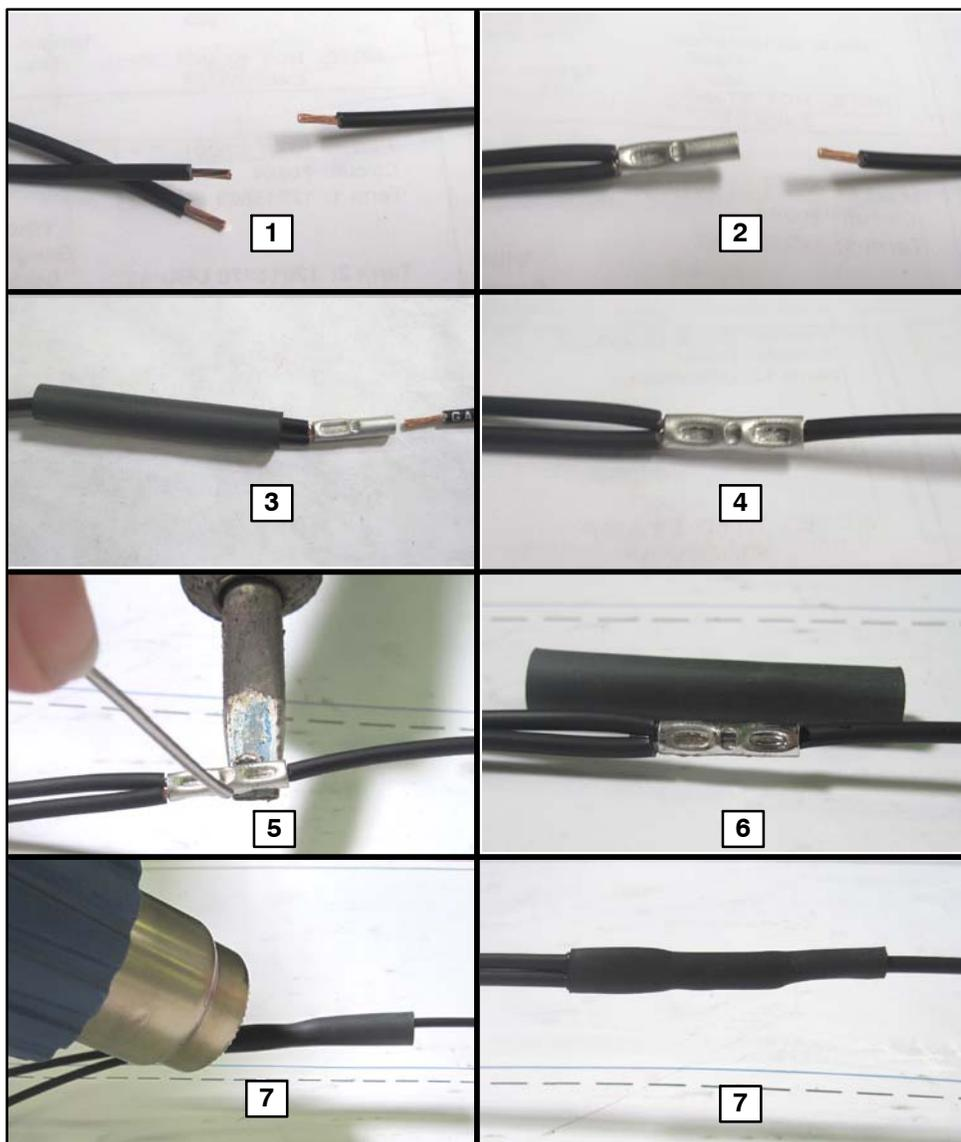

Figure 4.
7. Locate circuits A1, RA1 and LA1C in connector S102 cavities E, D and F. Using wire cutters, cut the wires 0.50 inch from the connector and splice them together using heat shrink, p/n 07-08-4684 (see Figure 4).
8. Locate circuits W1, RW1 and LW1C in connector S102 cavities L, K and M. Using wire cutters, cut the wires 0.50 inch from the connector and splice together using heat shrink, p/n 07-08-4684. (refer to Figure 4).
9. Using a small removal tool, remove circuit LW2A from connector S102 cavity J and splice with circuit LW2A from the Interior Light Relay Kit, p/n 07-08-4682 using heat shrink, p/n 07-08-4685 (refer to Figure 4).
10. Remove circuit RW2 from connector S102 cavity G and splice with circuit RW2 from the Interior Light Relay Kit, p/n 07-08-4682, using heat shrink p/n 07-08-4685 (refer to Figure 4).
11. Remove circuit LA3A from connector S102 cavity C and splice with circuit LA3A from the Interior Light Relay Kit, p/n 07-08-4682, using heat shrink p/n 07-08-4685 (refer to Figure 4).
12. Remove circuit RA3A from connector S102 cavity A and splice with circuit RA3A from the Interior Light Relay Kit, p/n 07-08-4682, using heat shrink p/n 07-08-4685 (refer to Figure 4).